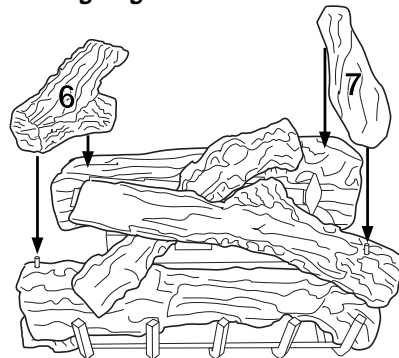

Figure 45 - Installing Log No. 6 and Log No. 7
6. Place log #6 (left log) onto left pin of front log (#2) and the smooth surface of rear log (#3) as shown in Figure 45. Make sure it is seated properly.
7. Place log #7 onto right pin of top log (#5) as shown in Figure 45. Make sure it is seated properly.